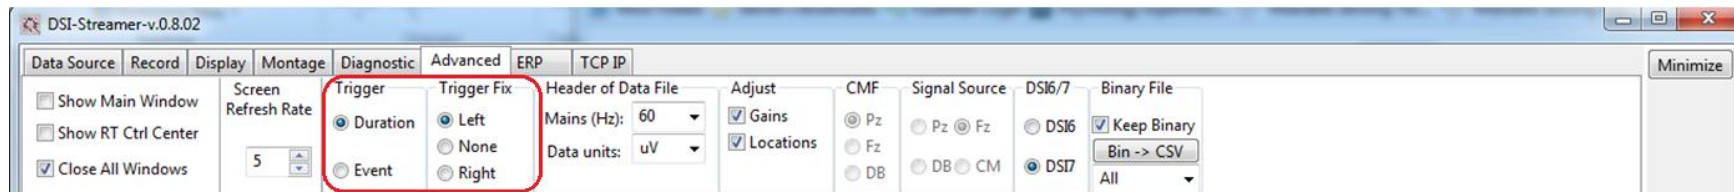
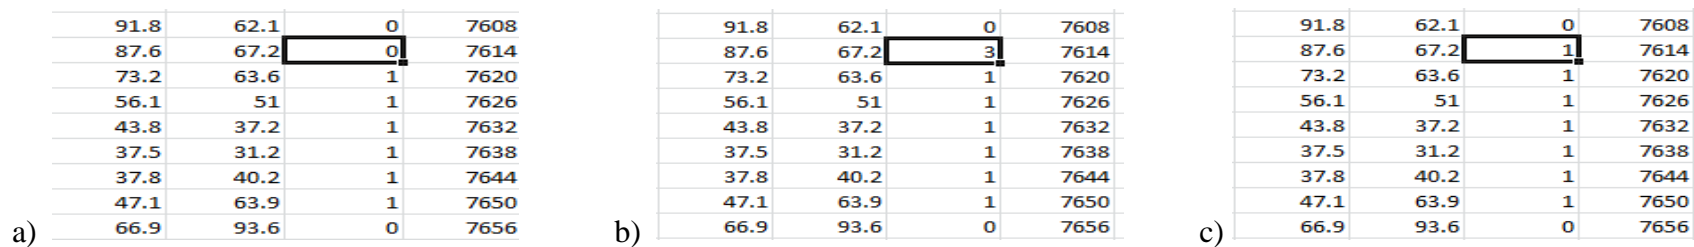

Figure 51 -- Advanced Tab with “Trigger” and “Trigger Fix” Highlighted
Figure 53 – Trigger Fix Option: a) Left Trigger Fix, b) No Trigger Fix, and c) Right Trigger Fix
The **Advanced** tab in the main window (Figure 51) provides a list of controls that open Control windows and define the file header information that appear in EEG data files saved by DSI-Streamer. The primary purpose of this Tab is intended to assist Customer Service in troubleshooting in the event that technical issues are experienced by the user. However, “Trigger” and “Trigger Fix”, the two features highlighted in Figure 51 may be useful to those who use external devices to send event information to DSI-Streamer.
There are 3 different ways that DSI-Streamer can deal with this irregularity when recording the data. In the “Trigger Fix” field of the Advanced Tab, circled in red in Figure 51, there are three options: “Left”, “None”, and “Right”. While none of these will alter how the data is displayed in the DSI-Streamer window while the data is streaming, they will affect how data is logged in the “Trigger” column, as seen in Figure 53:
Also seen in the red circle in Figure 51 is the option to set Trigger to either “Duration”, or “Event”.
- “Event”, if selected, reduces these triggers to a single value, as seen in Figure 54. These are the first nonzero values from their counterparts in Figure 53.